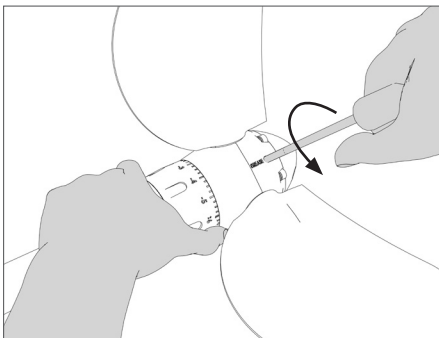

FIG. 42 | Unscrewing the grease cap
- Unscrew the cap of the grease hole using an Allen key (**Fig. 42**).